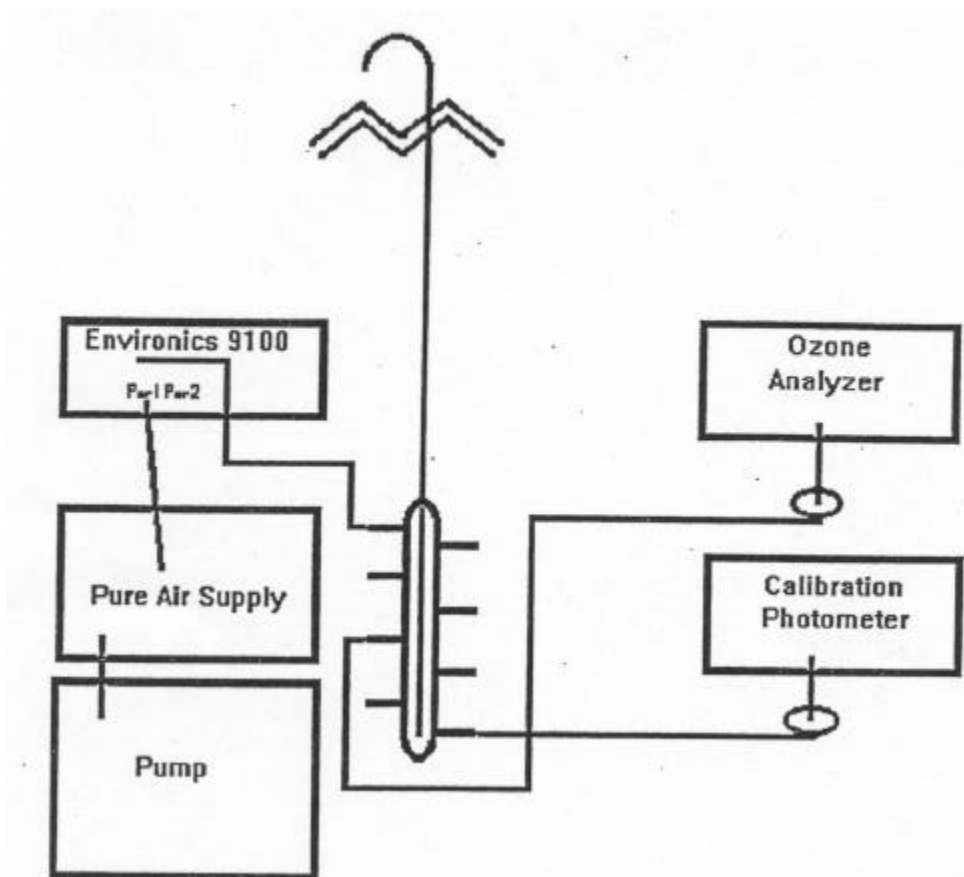

Figure AC.4.0.2
3. Connect the Environics 9100 to the other calibration instrumentation as illustrated in Figure AC.4.0.2. The following set of steps and Figure AC.4.0.2 assume that an ozone analyzer will be calibrated along with the Environics 9100. If the station ozone analyzer does not need to be calibrated, make the appropriate adjustments.